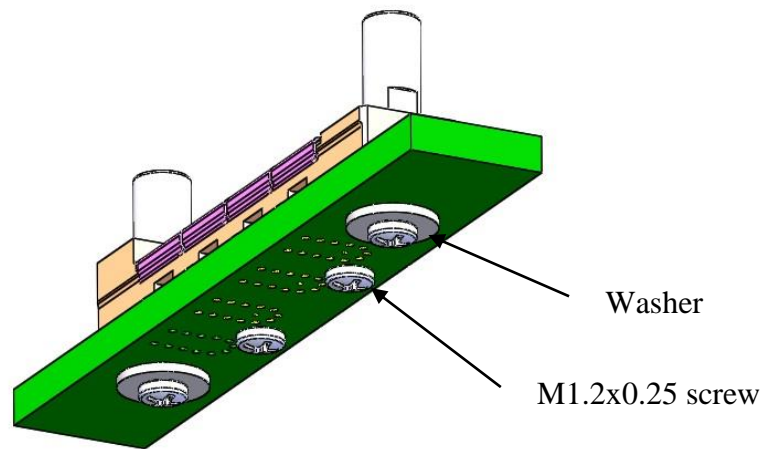

Figure 4: Connector, 4 position, bottom view
4.6. Tighten two M1.2 screws with flat washer onto the guide posts until the connector is secure (Figure 4).
4.7. Tighten remaining M1.2 screws required on the connector (Figure 4).